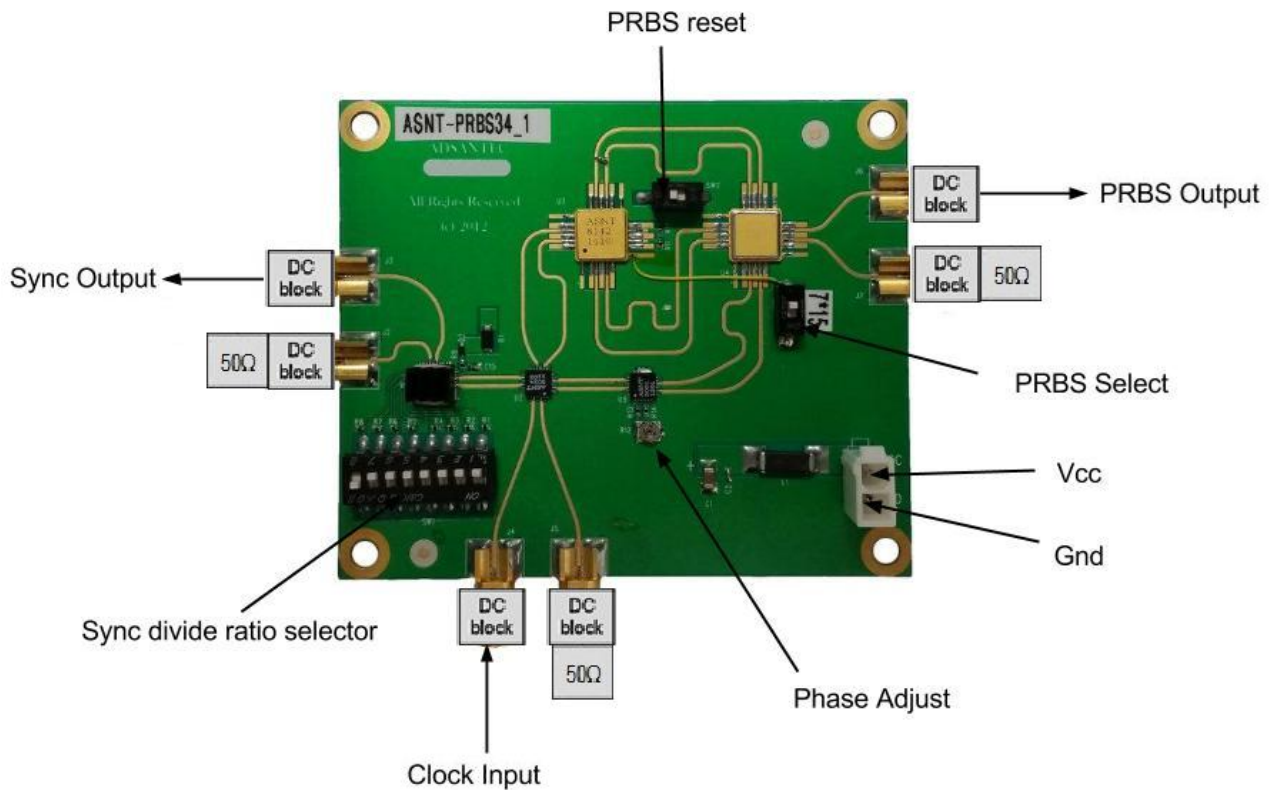

Fig. 7. Recommended Board Configuration Diagram
12. **Figure 7** below provides a diagram with an example of how this board can be connected. (**NOTE:** The connections described below only represent one way of interfacing to the evaluation board. While the use of DC blocks will be required on the depicted outputs, there are many ways of connecting the board depending on the use case involved.)